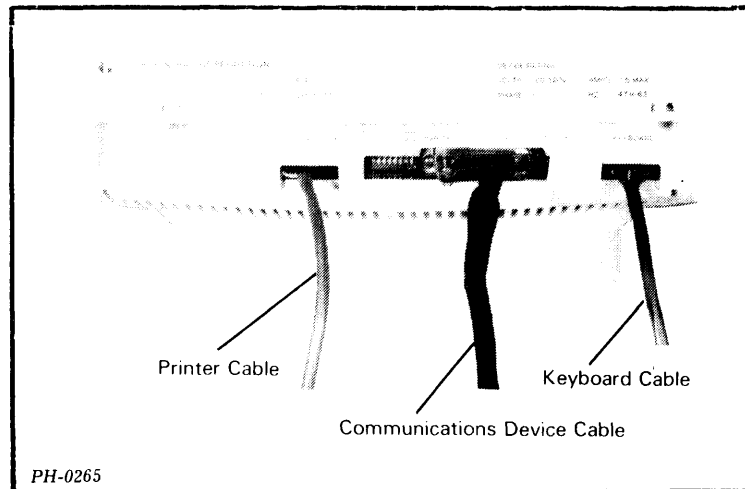

Figure 8.22 External cables
8. Plug the following cables into the rear of the display (see figure 8.22):